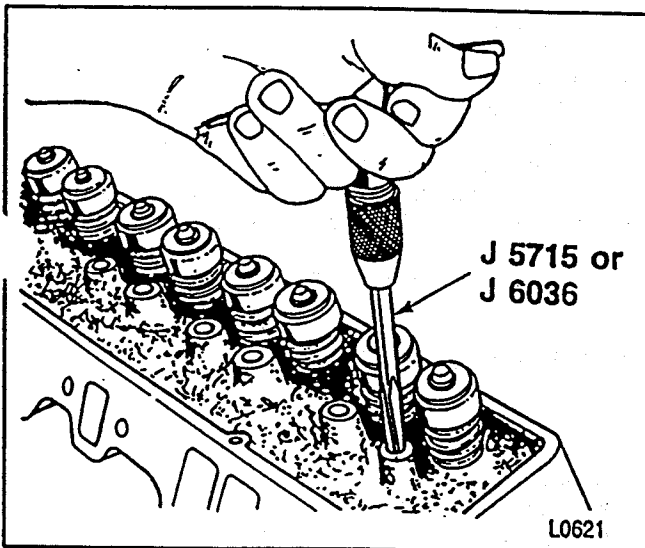

Figure 59—Reaming the Rocker Arm Stud Bore (5.0L and 5.7L Engines)
2. Ream the hole to the proper size for the replacement oversize stud. Use J 5715 for 0.0762 mm (0.003-inch) oversize studs; J 6036 for 0.3302 mm (0.013-inch) oversize studs (figure 59).